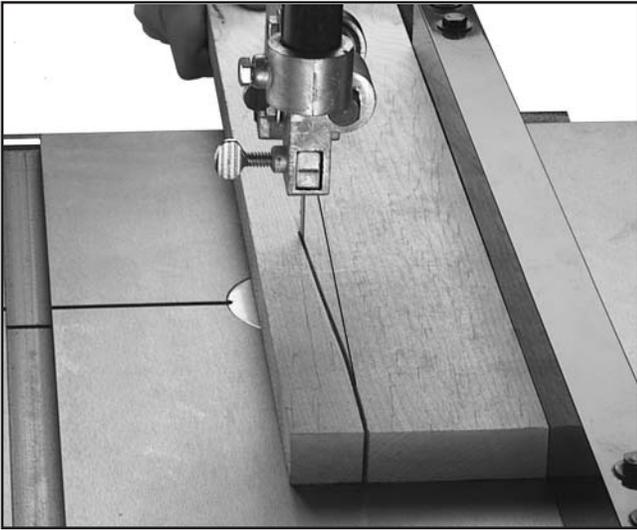

Figure 36. Blade leading away from line of cut.
Most bandsaw blades will not appear to cut straight when using the fence or miter gauge. This is called “lead.” (See **Figure 36.**) Lead occurs (1) if the blade tension is incorrect, (2) if the teeth are dull on one side, or (3) if the teeth are set heavier on one side of the blade than the other.